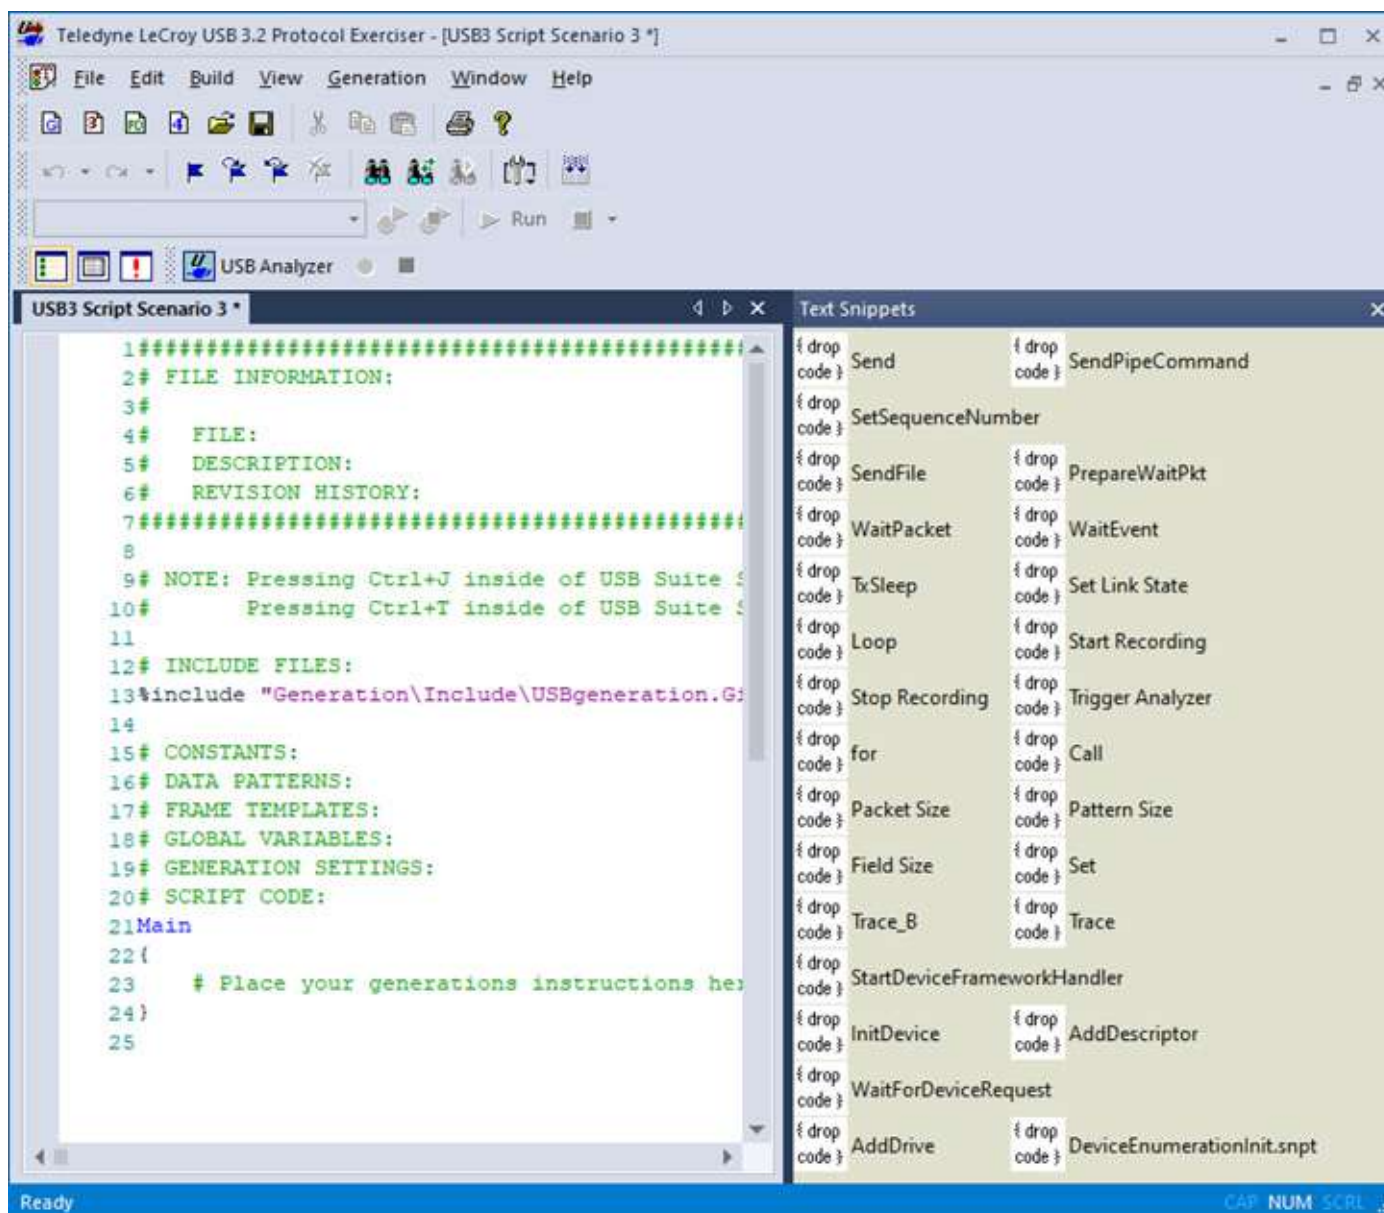

Figure 12.13: New Text Generation Scenario
- ☐ USB3: New Text Generation Scenario (see Figure 12.13 on page 697)